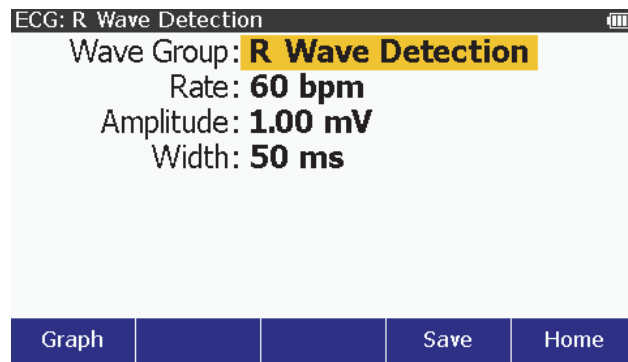

Figure 9. R Wave Detection Screen
5. Push **ENTER** to show the ECG: R Wave Detection screen in Figure 9 on the display.